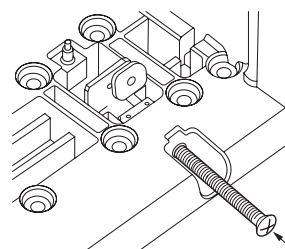

Figure 26
1. Insert the nut into the blending valve orifice located near the bypass flapper shown below. Insert the screw through the top plate and then through the nut (Figure 26).